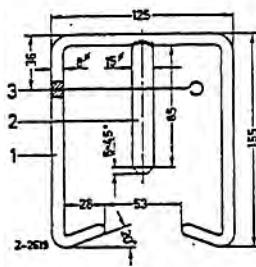

Fig. 42-3a/31
**Note:** The tensioning fixture can be made in the shop in accordance with the dimensions given in Fig. 42-3a/31. The retaining wire (3) holds the piston assembly to facilitate the positioning of the individual parts. The tensioning fixture shown in Fig. 42-3a/30 was not yet provided with such a retaining wire.
12. Install in the housing (22a) first the support ring (8), and then a vacuum seal (6), the spacer ring (7), the second vacuum seal (6) and the piston rod washer (4). If necessary press the vacuum seal into the housing with a blunt instrument. Finally insert the piston stop ring (5) (Fig. 42-3a/27).